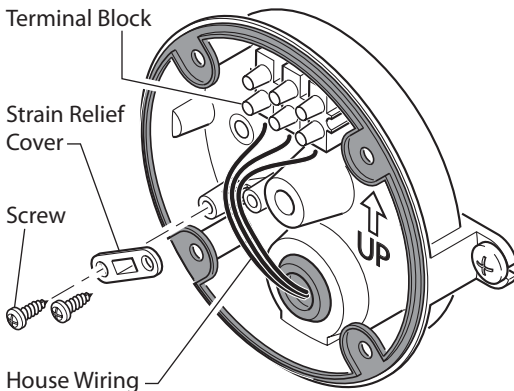

Figure 5
2. Remove the strain relief cover and place the house wires across the strain relief (see Figure 5).